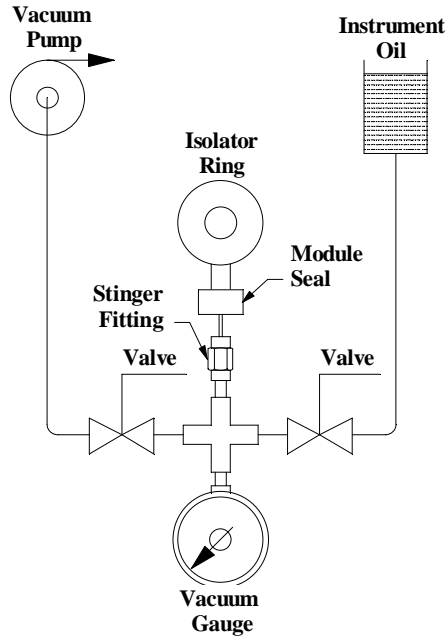

Figure 5
1. Assemble the vacuum filling kit as shown in figure 5. The vacuum pump can be either air powered or electric. If you are using an air-powered vacuum pump, make sure that you have a source of compressed air that can maintain 90-psi (6 bar) pressure continuously.